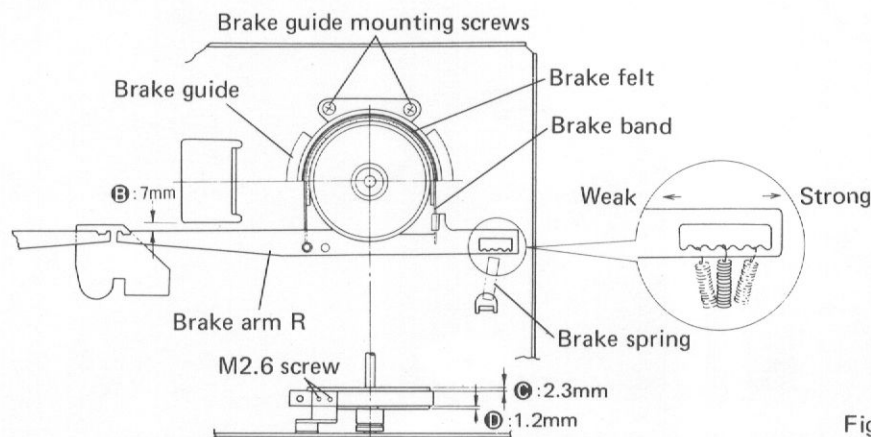

Fig. 24
1. Are dimensions ⑤ and ⑥ shown in Fig. 24 as specified when the brake is applied (solenoid attracted)? When outside the specified dimensions, loosen and readjust the M2.6 screw.
2. Is the brake guide mounted so that the brake drum and brake felt are uniformly separated when the brake is released (when the shaft of the solenoid is pushed by hand) after the check of item 1 above?
2. Hook a tension gauge to the end of the string and pull in direction B (C) and read the value indicated at the tension gauge when the reel base begins to turn.
3. Adjust the hooking position of the brake spring shown in Fig. 24 so that this value becomes 300 ~ 400g (torque = 900g.cm ~ 1200g.cm).
5. Confirm that the following relation is established between the above measured value and the value measured when the tension gauge is pulled in direction (A) D.